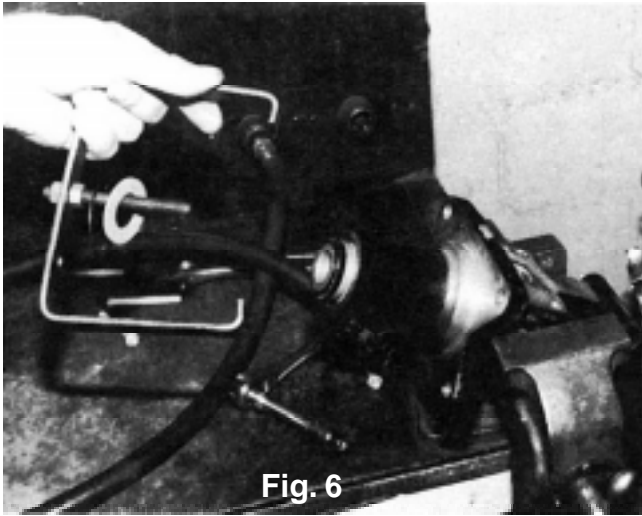
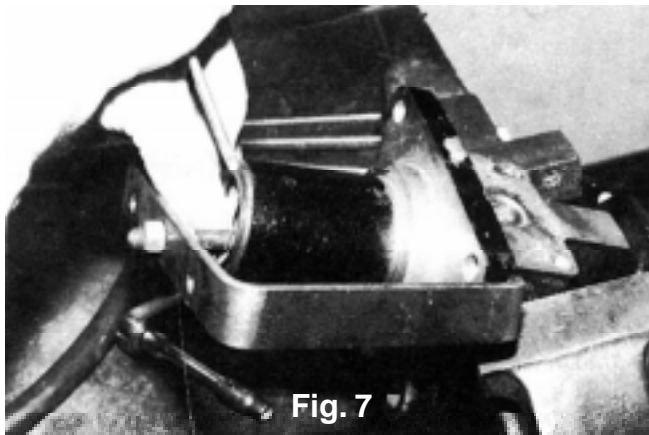

Fig. 6
Fig. 7
6. Place the stop washer (6) and retaining ring (7) over the center post of the retaining tool, depress the piston (1) in the bore and retain with the retaining tool. (See Fig. 6). Make certain the retaining ring is properly seated in its corresponding groove in the master cylinder casting. (See Fig. 7) **CAUTION: Keep retaining tool in place until Step 7 is completed!!**